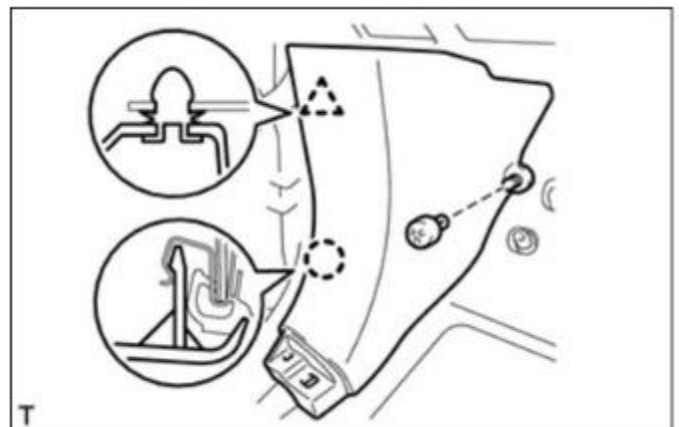

Figure 7
- (a) Remove the clip (Figure 7).